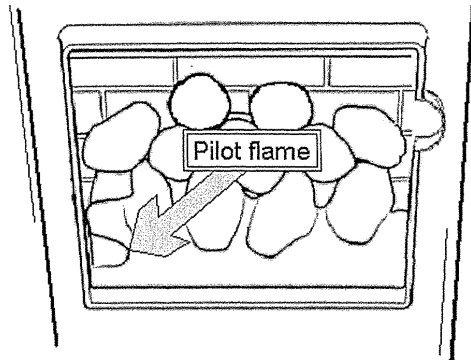

Figure 3
- Push in the right control knob (the pilot lighting knob) and, while keeping it depressed, turn anticlockwise through the ignition position marked  and up to the pilot position marked . The spark should light the pilot. The pilot flame can be seen by looking through the gap between the coals near the front left corner of the fire bed – See figure3.